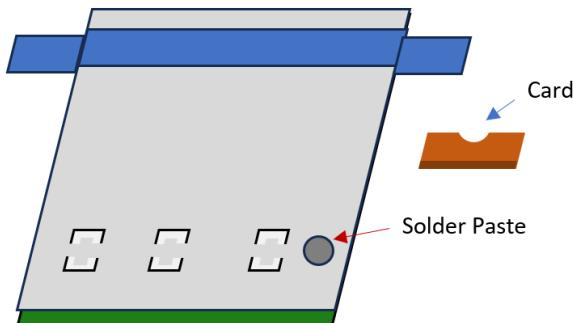

Figure 2: Using a solder paste and a plastic card applying to a PCB.
3.6. Using either a jar of solder-paste or a solder paste syringe, place or dispense a pea-sized amount of solder paste on the stencil, above the row of holes you wish to apply the solder paste to as shown in Figure 2.